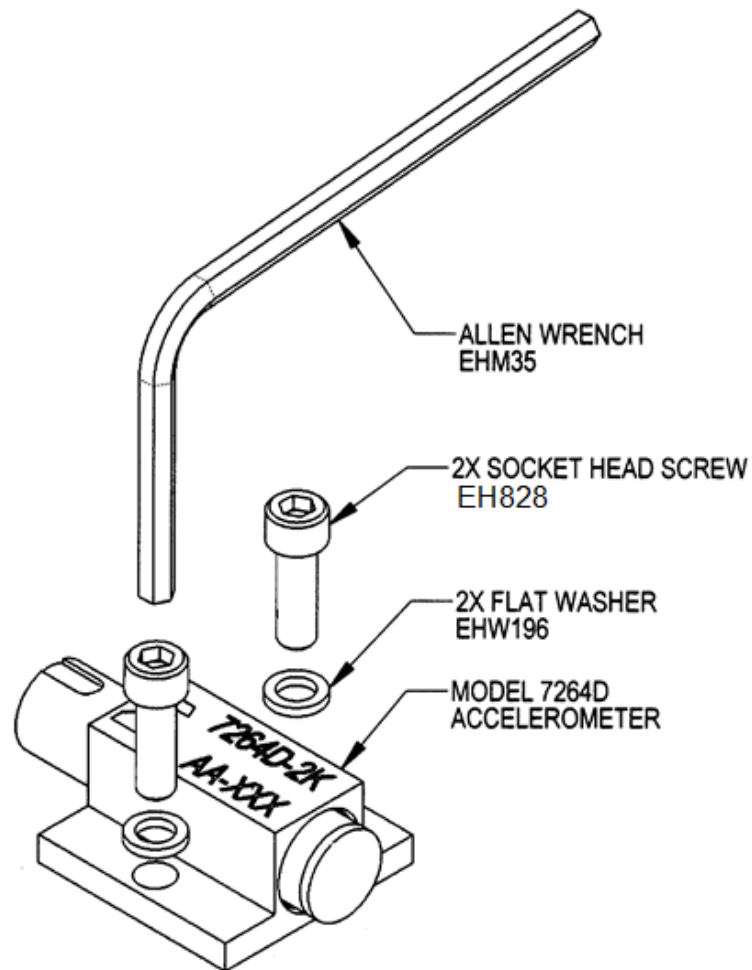

FIGURE 1 - Installation of Model 7264D Accelerometer
2. Do not cement the unit to the mounting structure. Use the supplied mounting washers and screws, as shown in Figure 1.